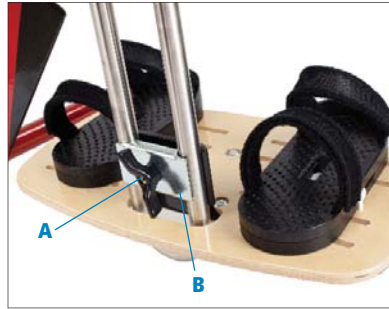

Figure 7a
The footboard is shipped in the reverse position on the tube. Reposition by removing knob (A) and clamp (B). Rotate footboard into correct position, replace clamp and knob and retighten (see Figure 7a).